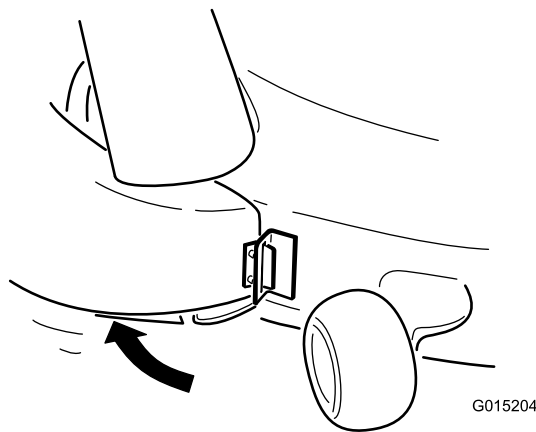

Figure 20
2. Pivot the chute back and toward the deck so chute is flush with the mower deck (Figure 20).